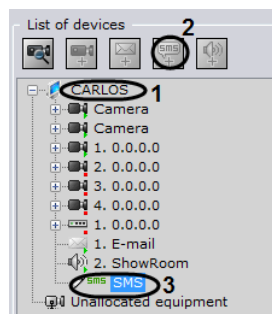

Fig. 6.4—36 Creating an SMS object
1. In the list of devices, highlight a **Server** object (Fig. 6.4—36, 1)
2. Click the  button (Fig. 6.4—36, 2).